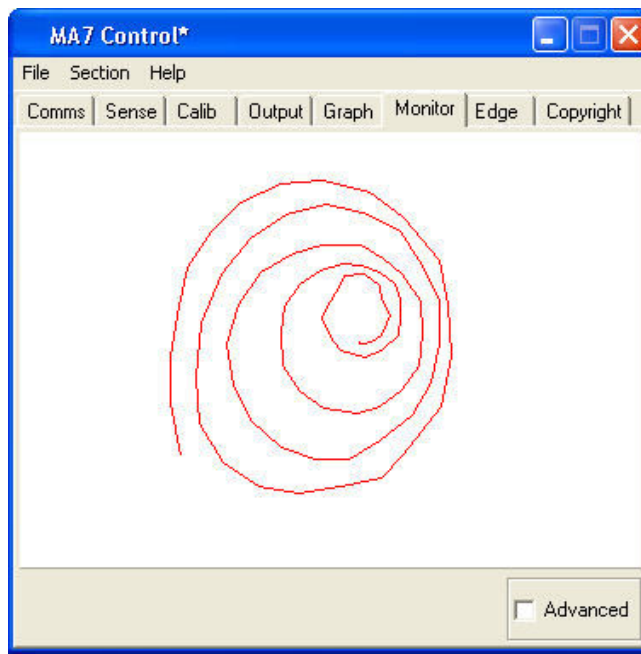

Fig 10
1. This section is used to check the output of the touchscreen over the whole display area represented by the white box in the centre. It is useful in checking for any dead areas on the touchscreen and the performance of the touchscreen being able to follow the finger accurately and responsibly (Fig 10).